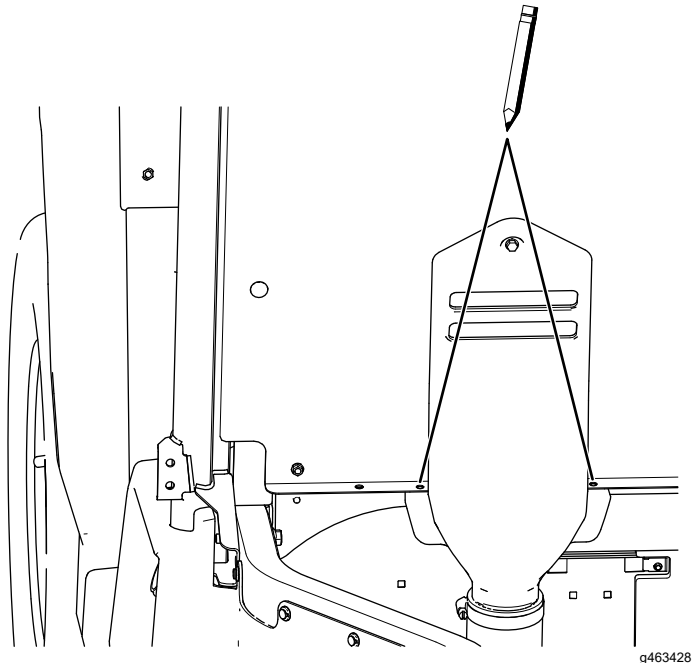

Figure 25
- C. Using the CVT-intake hood as the template, mark the 2 hole locations (Figure 25).